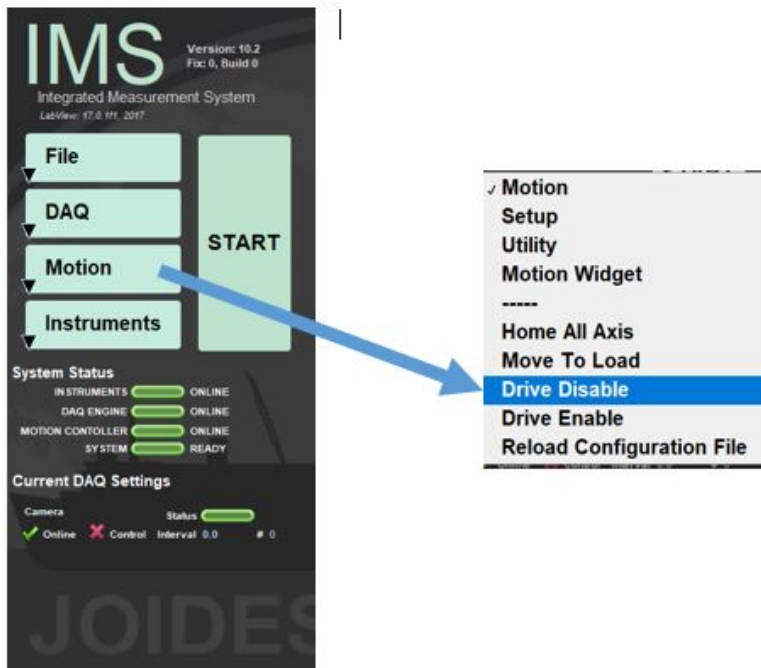

Figure 32. IMS commands to disable the drive.
2. In the **IMS control panel** select **Motion** and then **Drive Disable** from the dropdown menu (Figure 32). You will have to move the camera by hand for the calibration, disabling the motor allows manual movement of the camera on the track.